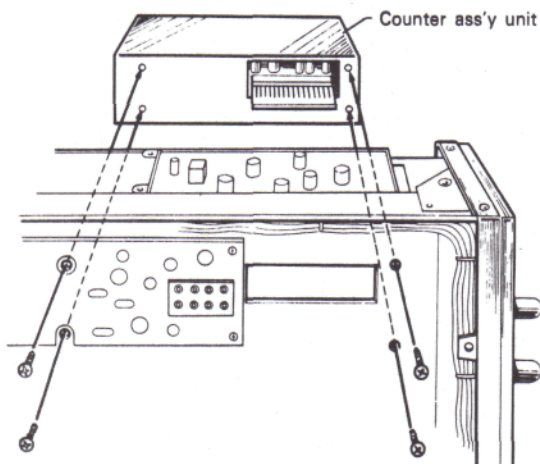

Fig. 20
- 2) Option mounting produce, when checking each voltage, attach the printed circuit board, as shown in Fig. 20.